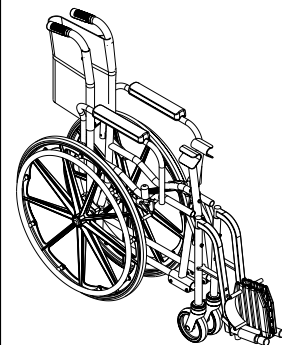

FIGURE 1 - UNFOLDING/FOLDING THE SHOWER COMMODE CHAIR
4. Remove pail holder from frame by lifting the four (4) pail holder hooks out of the four (4) holes on the frame tubing (DETAIL "B" of FIGURE 1).
5. Fold the Rehab Shower Commode chair by lifting up on crossbraces (DETAIL "C" of FIGURE 1).